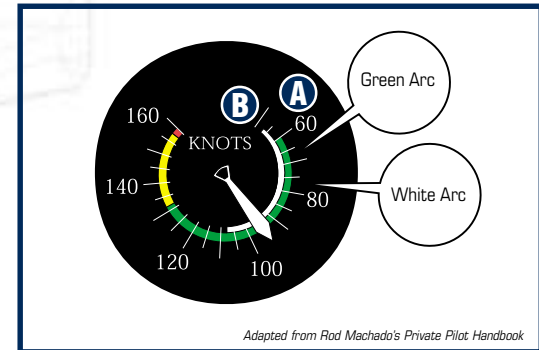

Figure 6-9 Flap Speed Range. A-Flaps extended - 53 kts. (beginning of white arc). B-No flaps - 60 kts. (beginning of green arc)
A slower speed on touchdown means less runway is used to stop. This is an important consideration if the runway is short. Alternatively, if the wind is gusty, you might consider approaching with little or no flap extension. At the slower speeds allowed by flaps, the airplane becomes more difficult to control because the controls are not as responsive. Let's see how effectively the flaps increase lift by referring to the airspeed indicator (Figure 6-9).
Since the flaps on our Cessna 172 are painted white (we'll assume they are for this discussion), the airspeed indicator's white arc represents the flap operating range. The beginning of the white arc (B) is known as the power-off, full-flap stalling speed (in nonaccelerated flight at the airplane's maximum allowable weight). It's the speed at which the airplane stalls with flaps fully extended, power off, and the gear extended. In Figure 6-9, the airplane will fly when 53 knots of wind blows over the wings if they are below their critical angle of attack.